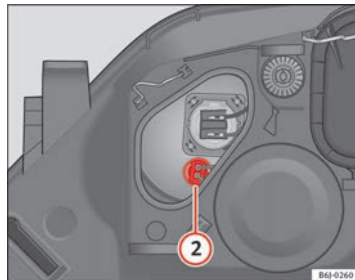

Fig. 158 Side lights
- Remove connector ⇒ fig. 158 ② by pulling outward.